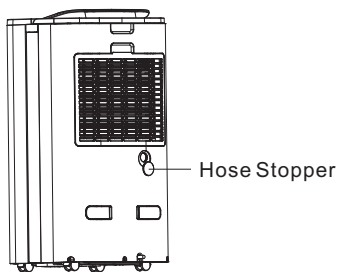

Fig.1
2. Take off the hose stopper. (Fig. 1)